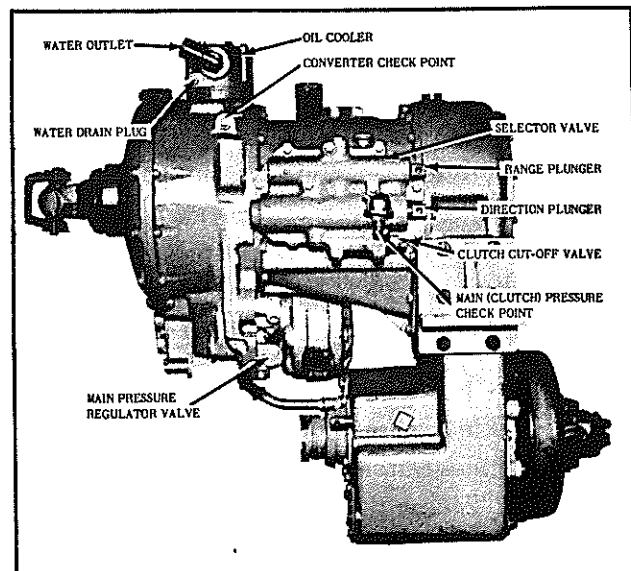

FIG. 25 - TRANSMISSION (RIGHT SIDE)
3. Ordinarily the converter "out" pressure reading is not required during operation - thus no gauge is provided on the instrument panel. It is specified at 25 P.S.I. minimum at full throttle, converter stall; and 65 P.S.I. maximum at full throttle, no load. The reading, if required, may be obtained by installing a pressure gauge in place of the converter "out" temperature sender, located at the converter check point (refer to Fig. 25) CAUTION: *DO NOT STALL CONVERTER LONGER THAN 30 SECONDS AT A TIME, WHEN OBSERVING THIS PRESSURE.*